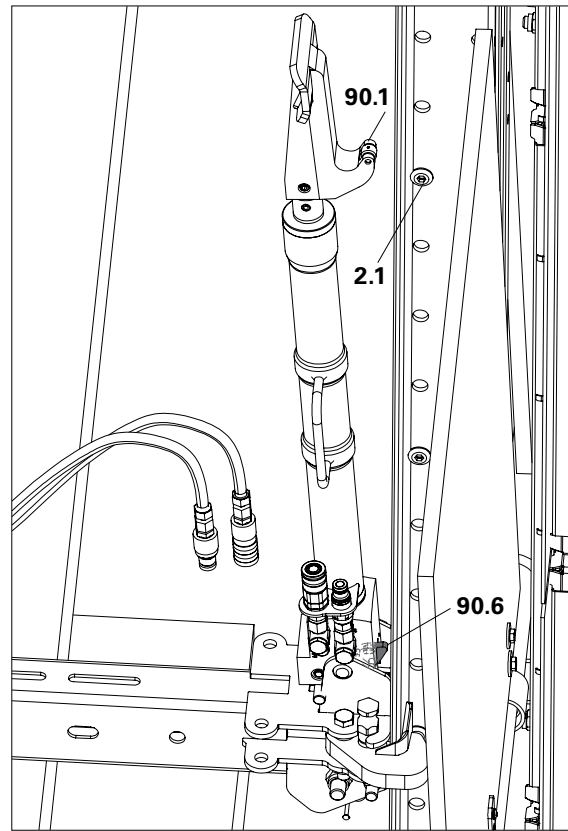

Fig. D5.09
3. Close the Foldable Covers (40).
4. Tilt the climbing device backwards, operate the locking lever (90.6) on the cylinder base and lift out the climbing device. (Fig. D5.09)